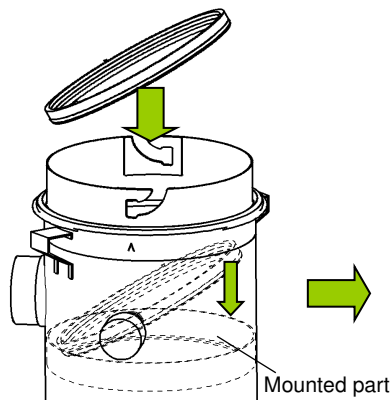

Fig. 6-1. Holder assembly replacement
① Remove old holder assembly
② Put the new holder assembly in the case with the holder slanted. (Fig. 6-1)